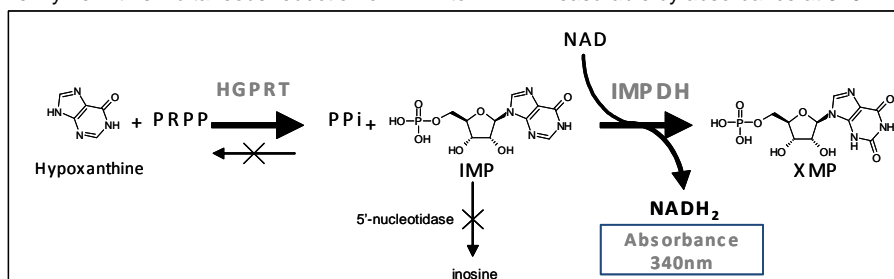

Figure 1. Enzymatic principle of PRECICE[®] HPRT Assay Kit.
PRECICE[®] HPRT Assay Kit provides an enzymatic tool for continuous spectrophotometric monitoring of HPRT activity in a convenient 96-well plate format. In the assay, HPRT activity is measured as a rate of production of IMP, which is oxidized by recombinant IMPDH enzyme with simultaneous reduction of NAD⁺ to NADH₂ measurable by absorbance at 340nm (Fig. 1).
- ii) Insert the plate into the reader pre-heated at 37°C, agitate for 2min and monitor the reaction at 340nm at 37°C for 2h with data collection every 5min. Typical results obtained with 1.5mU/ml of purified HPRT in the presence of 2mM PRPP or its absence are shown on Table 1 and Figure 1.
Figure 1. Time course of IMP formation by human recombinant HPRT (1.5mU/ml) incubated in the presence of PRPP in standard reaction buffer or its absence. After vigorous shaking for 2min, the absorbance at 340nm was monitored at 37°C using iEMS Plate Reader (Thermo Scientific) and round-bottom 96-well microplate (Corning, Costar®, ref. 3797).